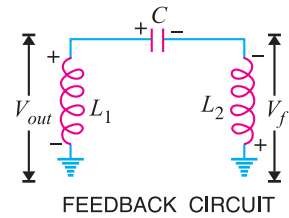

Fig. 14.14
Circuit operation. When the circuit is turned on, the capacitor is charged. When this capacitor is fully charged, it discharges through coils L_1 and L_2 setting up oscillations of frequency determined by *exp. (i). The output voltage of the amplifier appears across L_1 and feedback voltage across L_2 . The voltage across L_2 is 180° out of phase with the voltage developed across L_1 (V_{out}) as shown in Fig. 14.14. It is easy to see that voltage feedback (*i.e.*, voltage across L_2) to the transistor provides positive feedback. A phase shift of 180° is produced by the transistor and a further phase shift of 180° is produced by $L_1 - L_2$ voltage divider. In this way, feedback is properly phased to produce continuous undamped oscillations.
* Referring to Fig. 14.14, it is clear that L_1 and L_2 are in series. Therefore, total inductance L_T is given by: $L_T = L_1 + L_2 + 2M$
** Referring to Fig. 14.14, the circulating current for the two inductors is the same. Further, inductive reactance is directly proportional to inductance.